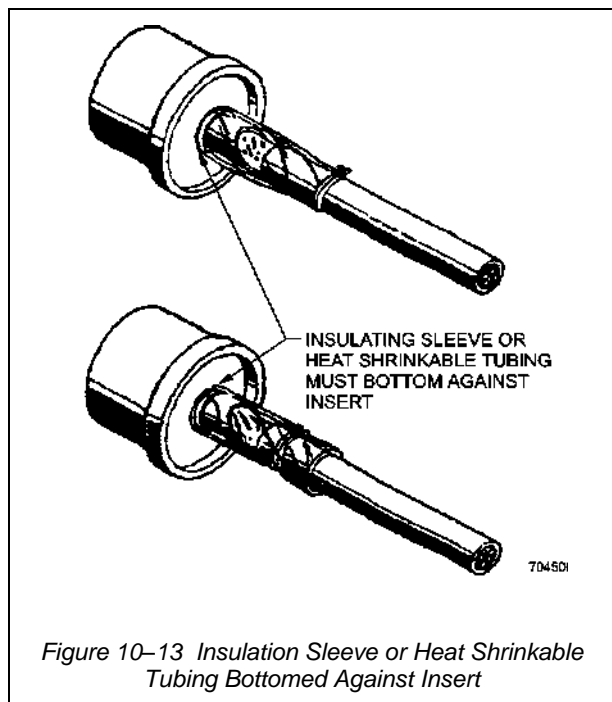

Figure 10-13 Insulation Sleeve or Heat Shrinkable Tubing Bottomed Against Insert
23. Install sleeves or heat-shrinkable tubing over the individual wires prior to assembly to solder cups. After the connections are cleaned, push the insulating sleeves or sections of heat-shrinkable tubing down over the contact until they bottom against the inserts as shown in Figure 10-13. Shrink heat-shrinkable tubing around the solder cups and terminated wire ends with hot-air gun.